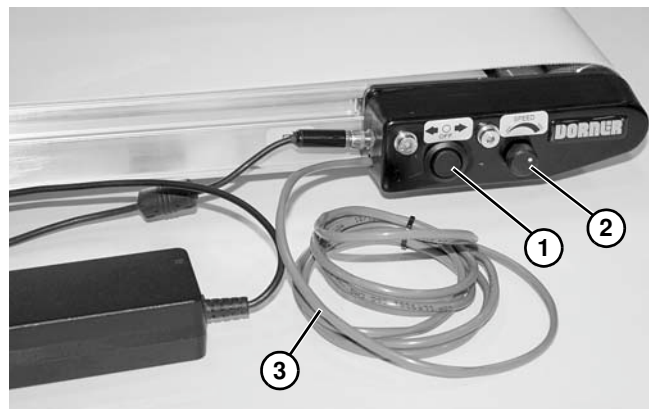

Figure 23
2. Select conveyor running direction with directional switch (**Figure 23, item 1**).
3. Select conveyor speed with speed control knob (**Figure 23, item 2**).
4. Remote start/stop cable (**Figure 23, item 3**) comes with wire nut over remote leads to allow test running conveyor.
6. Select conveyor running direction with directional switch (**Figure 23, item 1**). If Dark-On operation is selected, temporarily block photo eye to energize conveyor.
7. Select conveyor speed with speed control knob (**Figure 23, item 2**).